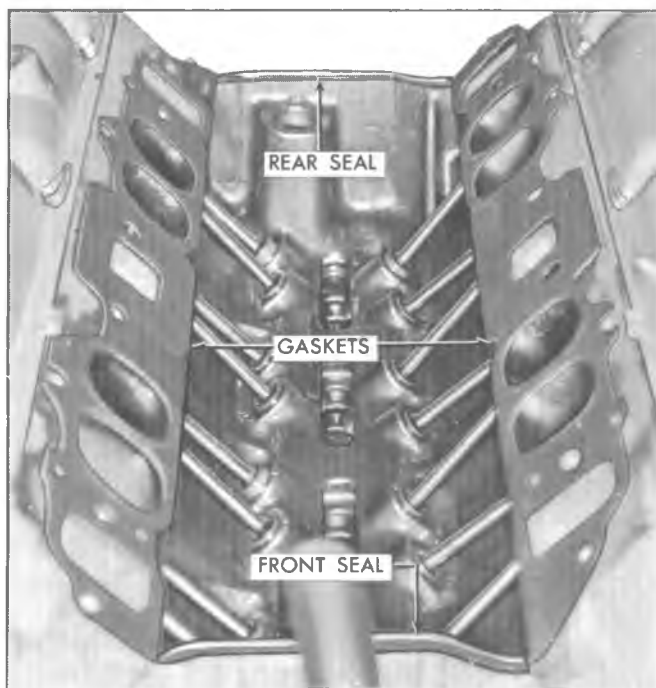

Fig. 1V-Intake Manifold Gasket and Seal Location
2. Install manifold seals on block and gaskets on cylinder heads (fig. 1V). Use sealer at water passages and where seals butt to gaskets.